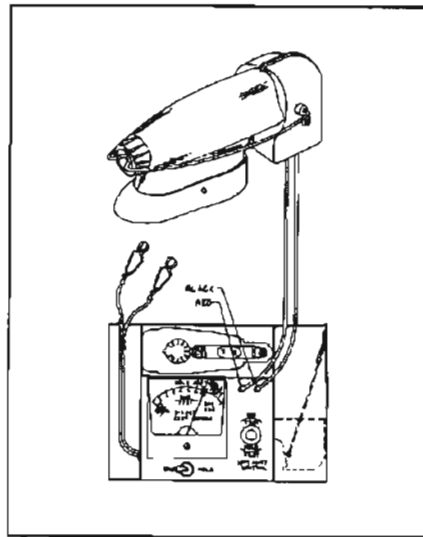

Figure 11-167—Tester J-8465
aiming device No. 6 and a sensitivity test lamp. See Figure 11-167.
(1) Set driver sensitivity control to detent position (fully counterclockwise).
(2) Install Tester Lamp. (Use Kent-Moore Model J-8465). See Figure 11-167.
(3) Start engine and operate at fast idle while making adjustments.
(4) Turn headlamps on and wait at least 5 minutes for amplifier unit to stabilize. Place foot switch in automatic position.
(5) Turn zero corrector on face of meter until meter pointer is on ZERO SET line. See Figure 11-167.
(6) Turn Tester INTENSITY CONTROL counterclockwise.
(7) Connect battery leads of Guide-Matic tester to battery terminals.
(1) Rotate tester INTENSITY CONTROL completely counterclockwise.
(2) Turn DIM-HOLD switch to HOLD position and then back to DIM position. Headlamp should be on upper beam.
(3) Turn tester INTENSITY CONTROL clockwise slowly just to point where headlamps switch to lower beam. The meter pointer should now read in the black DIM ADJ. range on the meter scale. See Figure 11-167. If not, proceed to the hold and dim sensitivity adjustments.
(1) Turn INTENSITY CONTROL all the way clockwise.
(2) Turn DIM-HOLD switch to DIM position and back to HOLD position to obtain a lower beam.
(3) Slowly turn INTENSITY CONTROL counterclockwise just to the point where headlamps switch to upper beam. The meter pointer should now read in the green HOLD ADJ. range on the meter scale. See Figure 11-167. If not, proceed to the hold and dim sensitivity adjustments.
(5) Adjust INTENSITY CONTROL slowly counterclockwise until meter pointer is on HOLD ADJ. line. See Figure 11-167.
(6) Turn amplifier hold control slowly counterclockwise just to the point where headlamps switch to upper beam. Do not go beyond this setting.
(7) Recheck sensitivity as shown in Steps (1) through (3) under Hold Sensitivity Test.
(2) Momentarily turn DIM-HOLD switch to HOLD then back to DIM position to obtain upper beam. See Figure 11-167.
(3) Adjust tester INTENSITY CONTROL until meter pointer is at DIM ADJ. line. See Figure 11-167.
(4) Slowly rotate amplifier dim control clockwise just to point where headlamps switch to lower beam. Do not go beyond this setting.
(5) Recheck sensitivity as shown in Steps (1) through (3) under Dim Sensitivity Test. If sensitivity is not correct, repeat adjustment procedure.
(6) If adjustment is correct, turn off headlamps and disconnect Kent-Moore tester.
(7) Remove tester lamp from the phototube unit.